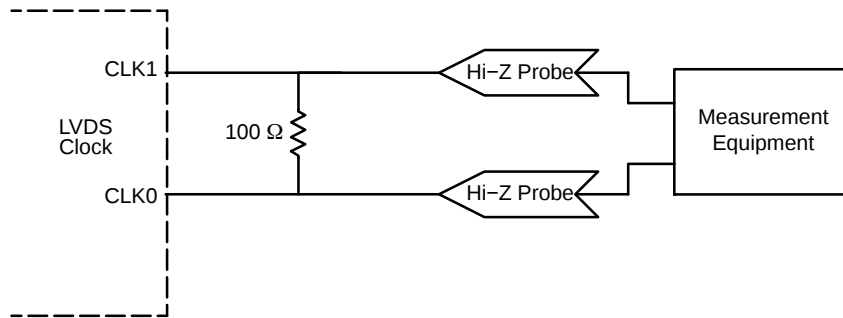

Figure 9. LVDS Parameter Measurement
- LVDS outputs require $100\ \Omega$ receiver termination resistor between differential pair. See Figure 9.